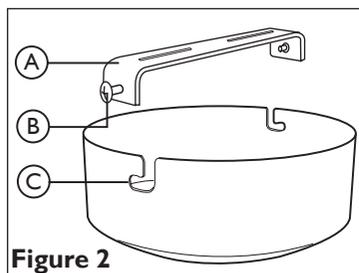
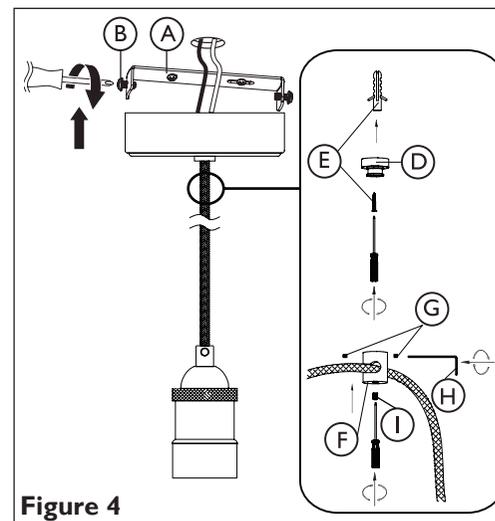

Figure 2
Figure 4
Refer to Figure 2. Remove the fixing bracket (A) from the ceiling cover by removing the side screws.
Refer to Figure 4. Attach the product to the ceiling. This product has "L" shaped fixing slots (C) to allow easy attachment to the fixing bracket, as shown in Figure 2. Locate the "L" slots around the small screws (B) on the fixing bracket (A). Rotate the ceiling cover to attach the product to the bracket. Tighten the screws to secure. Take care not to trap any wiring.
Refer to Figure 4. This product is supplied with an optional hook to attach the cable to the ceiling if desired. Attach the disk (D) to the ceiling using the supplied fixings (E). Take care not to damage any concealed wiring or pipes. Place the cable through the hook (F). Then place the hook over the disk (D) and secure in place with the supplied hex screws (G) using the hex key (H). Tighten the cord grip (I) underneath to secure the cable.